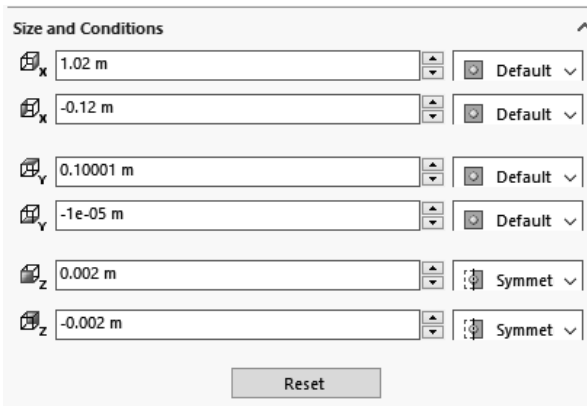
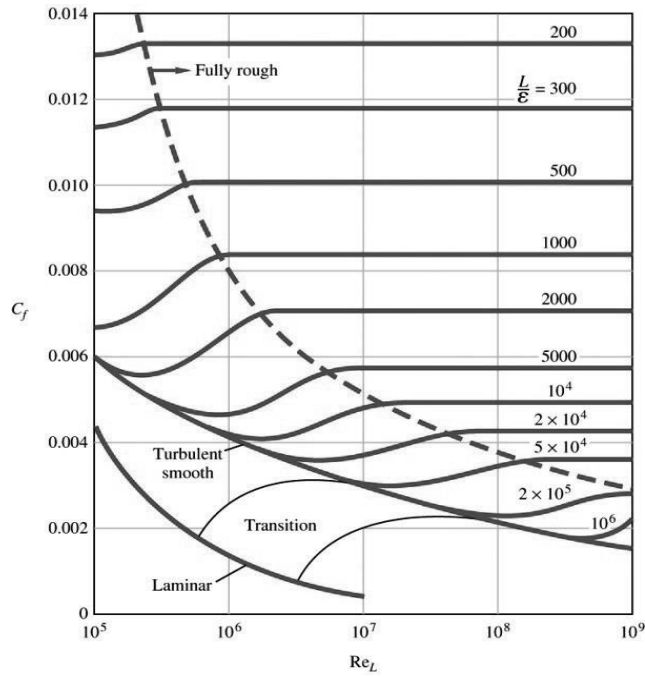

Figure 2.28a) Setting the size of the computational domain
Figure E3. Average friction coefficient for flow over smooth and rough flat plates, White (1999)
28. Select **Tools>>Flow Simulation>>Computational Domain...** Set the size of the computational domain to the values shown in figure 2.28a). Click on the **OK** button to exit. Select **Tools>>Flow Simulation>>Global Mesh...** from the SOLIDWORKS menu, select **Manual Type** and change the **Number of cells per X:** to **400** and the **Number of Cells per Y:** to **200**. Also, click on **Control Planes**. Change the **Ratio** for **X** to **-5** and the **Ratio** for **Y** to **-100**. Click on the green check mark above Ratio, see Figure 2.28b). This will increase the number of cells close to the wall where the velocity gradient is high. Select **Tools>>Flow Simulation>>Calculation Control Options...** from the SOLIDWORKS menu. Change the **Maximum travels** value to **5** by first checking the box for **Travels** under the **Finishing** tab and changing to **Manual** from the drop-down menu. Travel is a unit characterizing the duration of the calculation. Click on the **OK** button to exit.
The average friction coefficient over the whole plate  $C_f$  is a function of the surface roughness for the turbulent boundary layer and also a function of the Reynolds number based on the length of the plate  $Re_L$ , see figure E3 in Exercise 8. This friction coefficient can be determined in Flow Simulation by using the final value of the global goal, the X-component of the Shear Force  $F_f$  and dividing it by the dynamic pressure times the area  $A$  in the X-Z plane of the computational domain related to the flat plate, see figure 2.28a) for the size of the computational domain.
2.8 Use different fluids, surface roughness, free stream velocities and length of the computational domain to compare the average friction coefficient over the entire flat plate with figure E3.